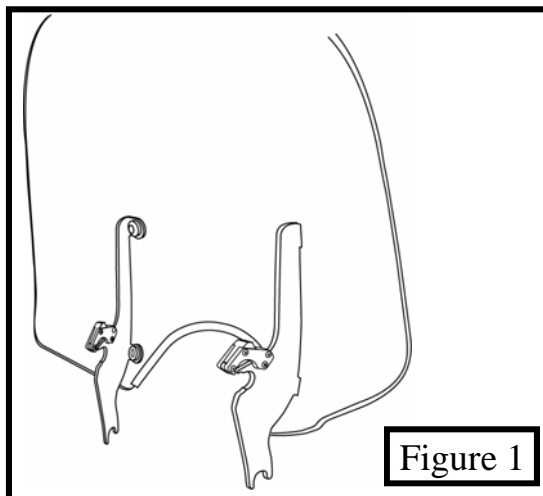

Figure 1
2. Install the windshield mounting plates onto the windshield, using the bolts that are pre-assembled on the mounting plates. The Santoprene grommets should be inserted through the holes in the windshield so that the flat round part of the grommet lies flat on each side of the plastic. ***Tabs point in towards the headlight.*** (see figure 1).